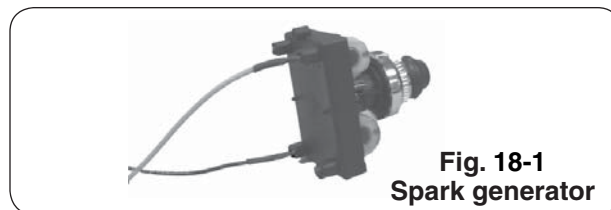

Fig. 18-1
- c. Carefully pull the left end of the backburner forward until the burner can be moved to the left pulling it free from the orifice located on the right side (see Fig. 18-1).
before the control panel is completely removed (see Fig. 18-1).